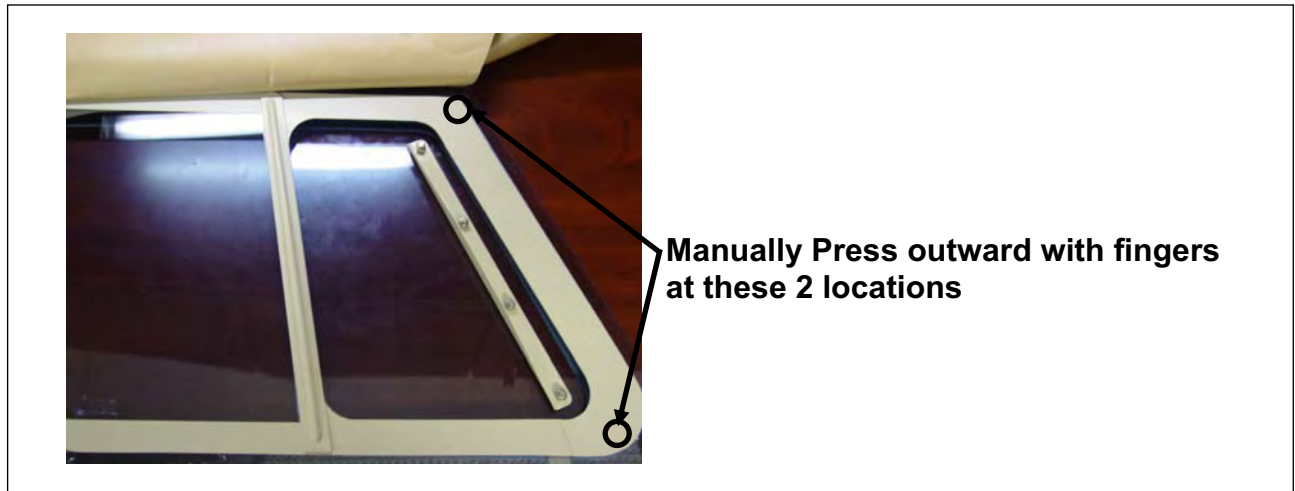

FIGURE 4 – Push Test Locations
3. With the slider assembly in the full-closed (fwd) position, from the interior of the aircraft, apply manual outward pressure at the two locations indicated in Figure 4. Visually inspect slider track for any obvious signs that the track is de-bonding from the acrylic.